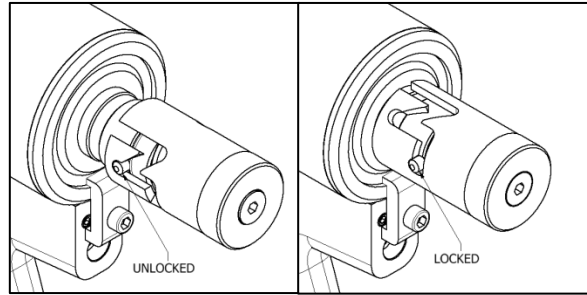

Figure 4: Safety Stop
1. Set the **Safety Stop** to the **LOCKED** position (see Figure 4).